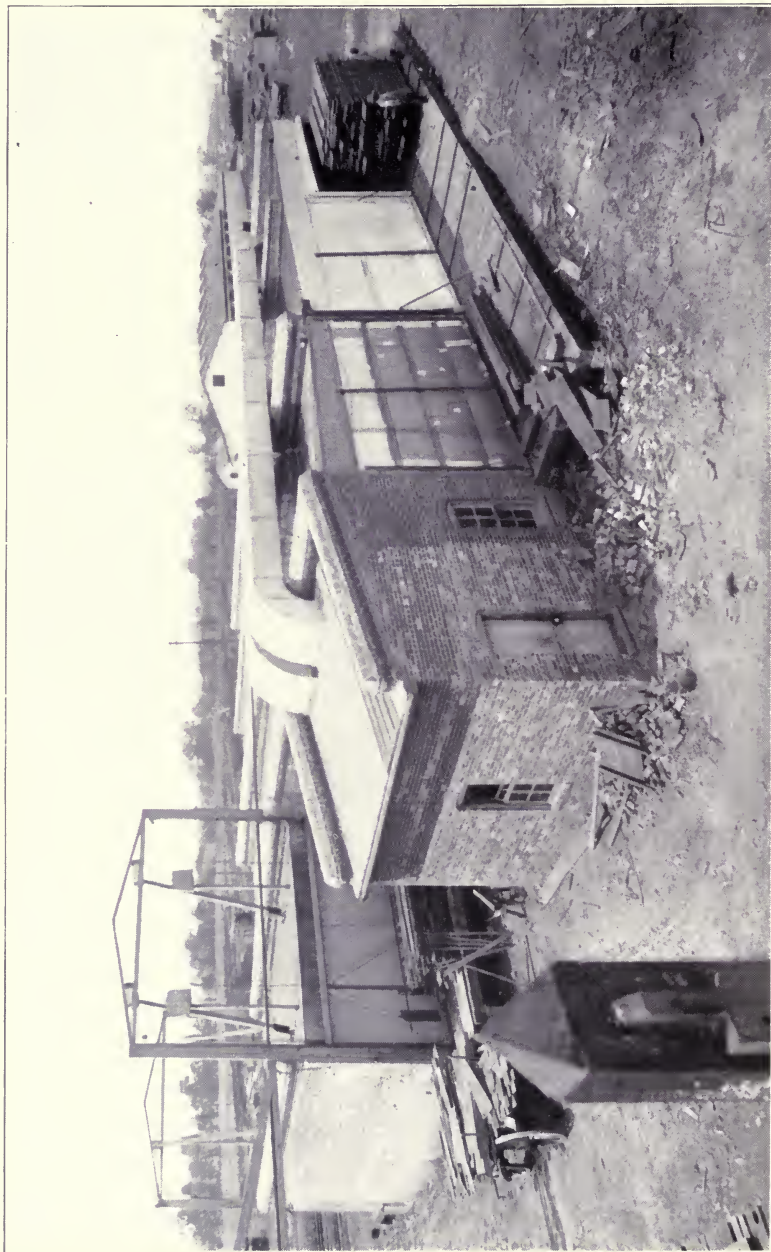

Fig. 57. Lumber-Kiln
(2) Kiln-drying or hot-air-seasoning is a much more rapid process than air-seasoning and is now in common use, Fig. 57. The drying is also more complete, for while air-dried wood retains from 10% to 20% of moisture, kiln-dried wood may have no more than 5% as it comes from the kiln. It will, however, reabsorb some moisture from the air, when exposed to it.